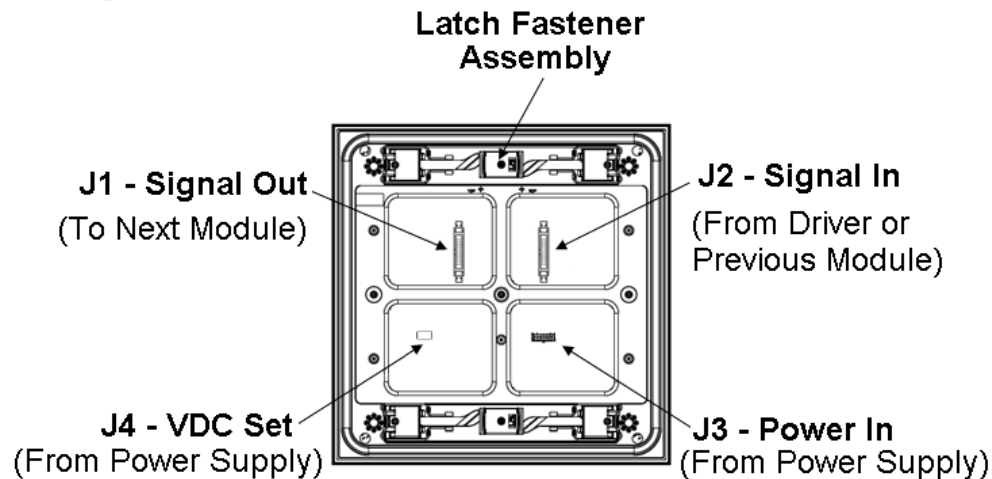

Figure 39: Module, Rear View
2. Use a 1/8" hex wrench or 7/32" nut driver to loosen the latch fastener assembly (**Figure 39**). Turn each fastener a quarter-turn clockwise (if using a nut driver, turn the top latch counter-clockwise and the bottom latch clockwise).